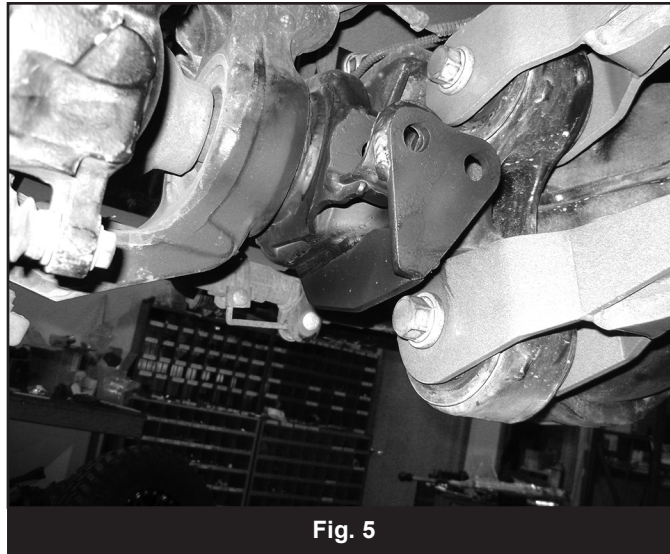

Fig. 5
13. Weld the lower dual mount bracket to the axle. (Fig 5)